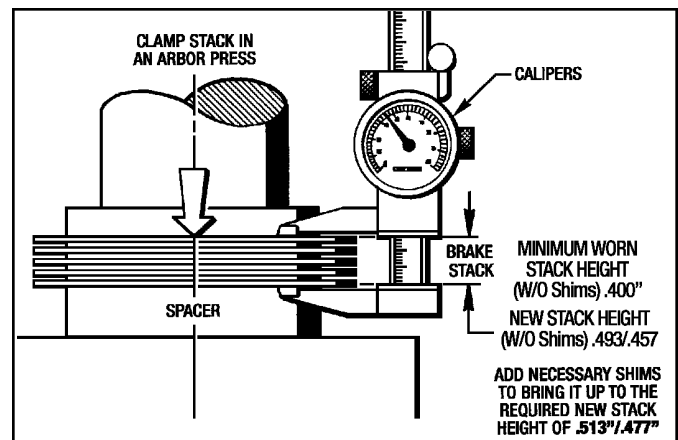

Figure 7.1 - Measuring Stack Height - MSB2
The Stack Height must be measured to determine whether or not the Brake Stack needs to be replaced. If it measures under the Minimum Worn Stack Height then the Brake Stack needs to be replaced. Also, if you are installing a new brake stack, it needs to be measured to determine the amount of shims required (See *Figure 7.1*)
3. Remove the (4) Screws (#169) and (4) Lockwashers (#129) from the End Housing (#9).
5. Remove the (2) Button Hd. Screws (#181) that holds the brake stack together.
7. Remove the complete Brake Stack off the Hub (#2). There will be (5) Drive Plates (#12), (4) Friction Discs (#13) and (8) Separator Springs (#17). Also remove the Thrust Plate (#5).
8. Place the Brake Stack without any Separator Springs (#17), including any shims in an arbor press and measure the **Worn Stack Height** as described in **Section 7-4** to determine whether or not the Brake Stack needs to be replaced. (See Figure 7.1)
9. Measure the **New Brake Stack** with the same procedure as shown in Figure 7.1 to determine the amount of shims required. The normal shim requirement is .020".